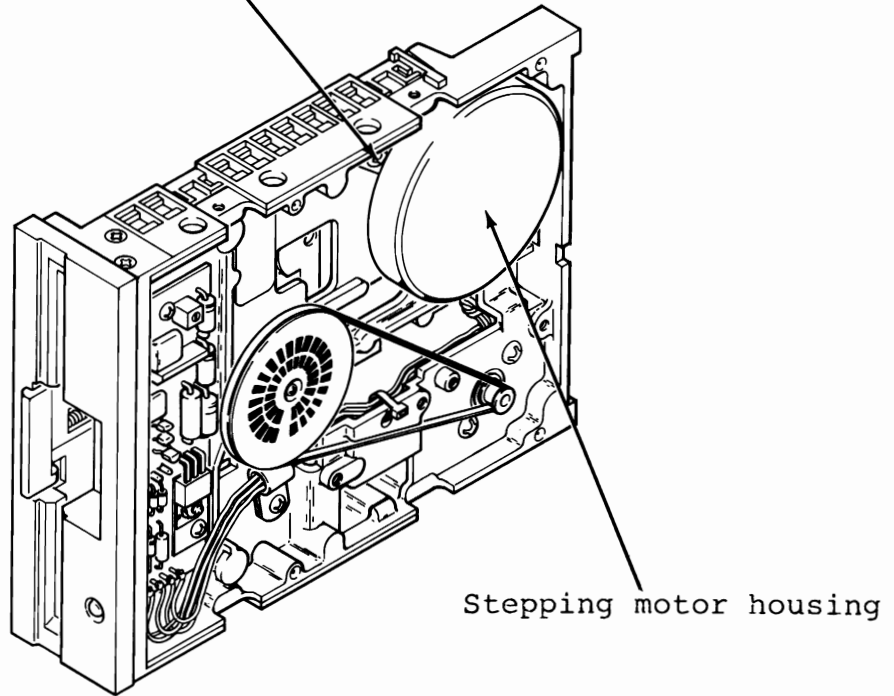

Figure 5-2. Head Alignment Adjustment
6. Reconnect J1 to P1, J2 to P2, J5 to P5, J6 to P6 and J7 to P7 in such a manner that access is still allowed to the stepping motor mount screws (See Figure 5-2).
8. Remove any Glyptol or other substance from stepping motor mount screws (See Figure 5-2).
10. Loosen two screws (Figure 5-2, Item 1) securing stepping motor housing to drive unit. Do not remove screws. Screws should be just loose enough to permit rotation of the stepping motor housing.